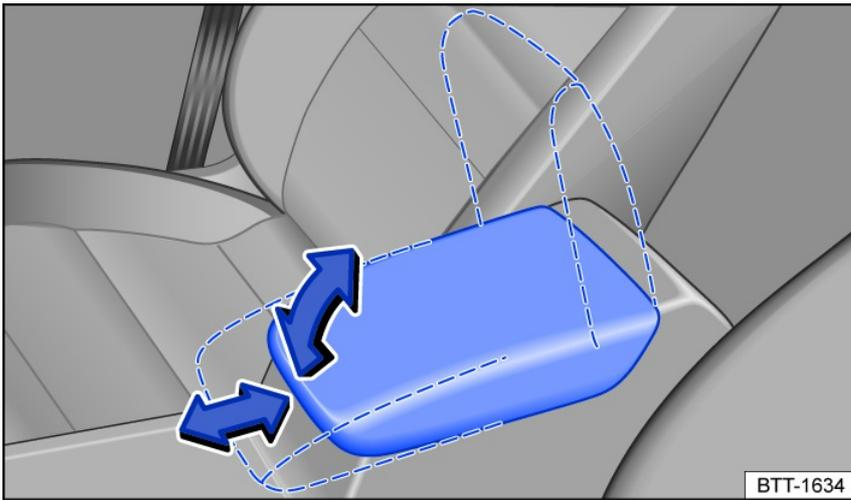

Fig. 91 Front center armrest (variant 1).
- To *raise* the center armrest, pull it upwards from detent to detent in the direction of the arrow *fig. 91*.
- To *adjust laterally*: Slide the center armrest fully forwards *fig. 91* or fully backwards in the direction of the arrow.